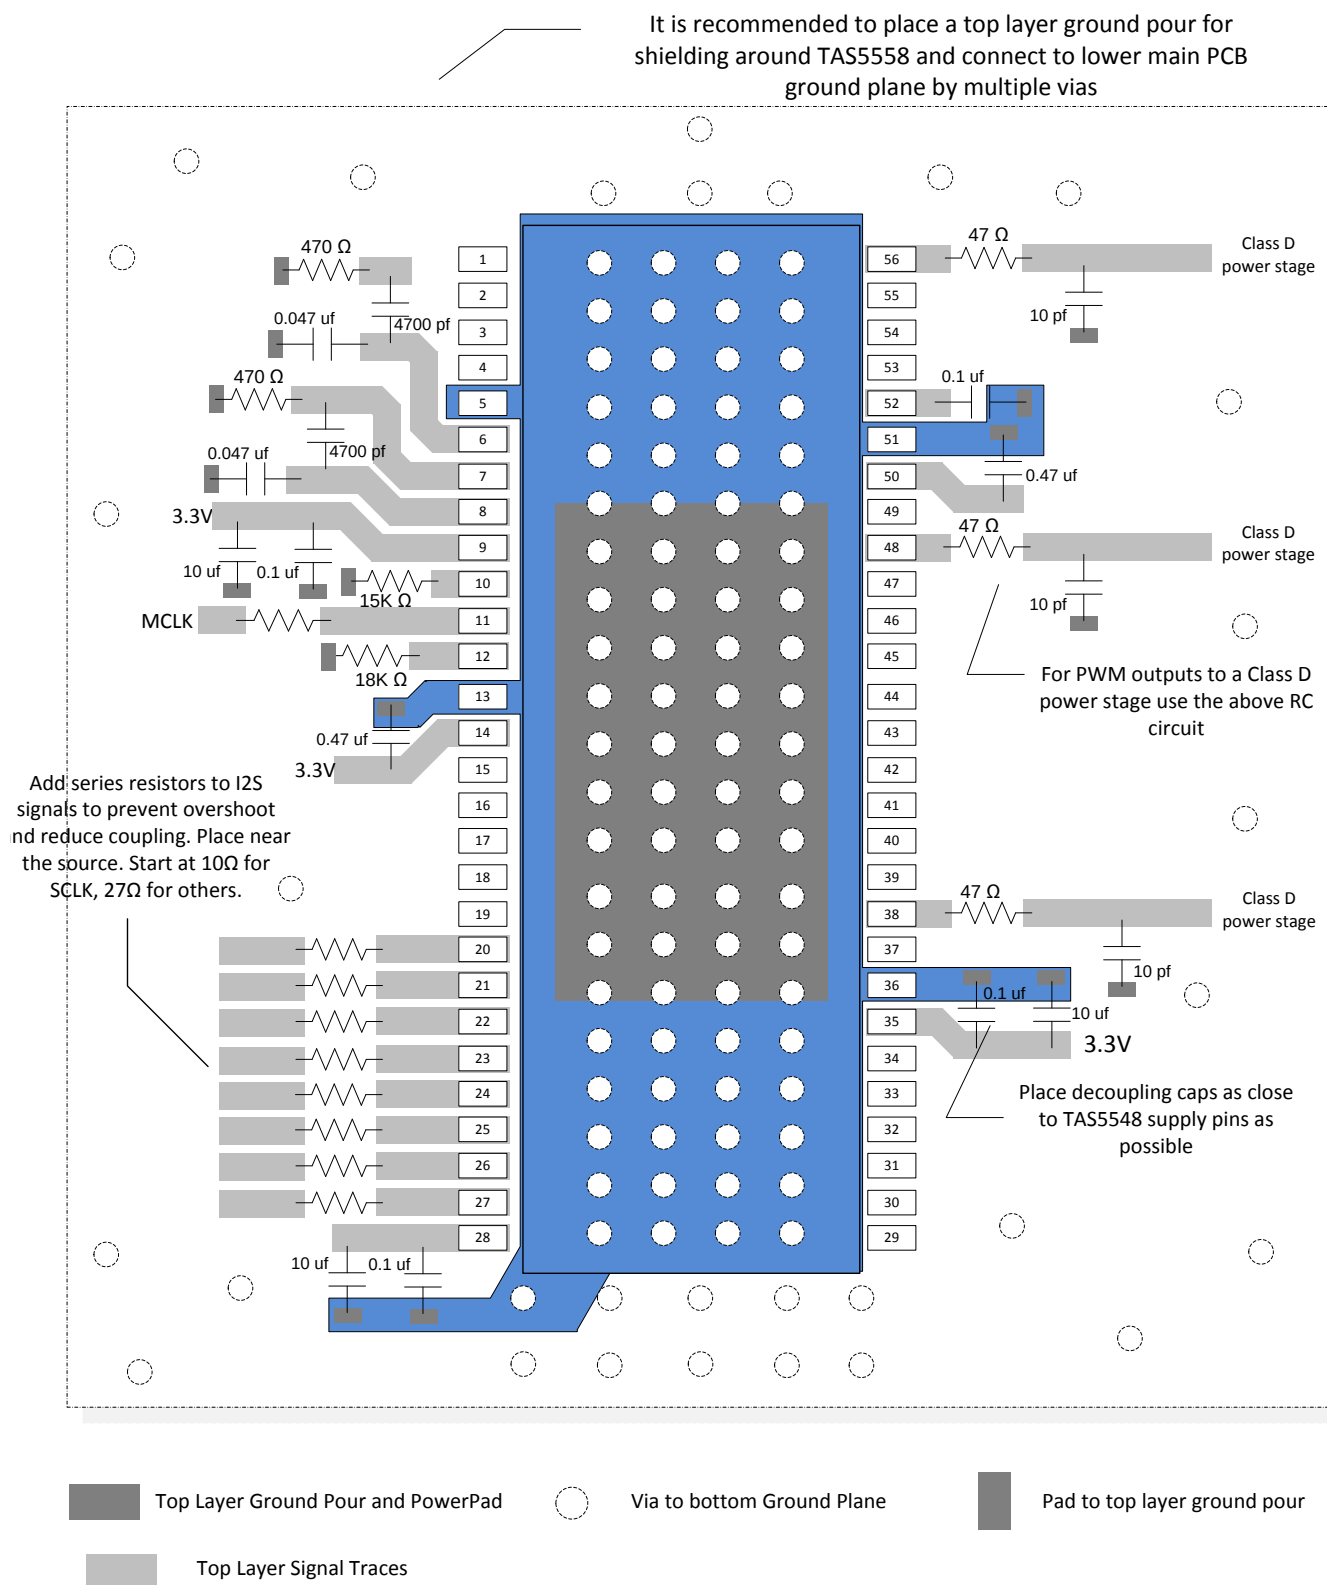

Figure 53. TAS5558 Layout Example
- Decoupling capacitors should be placed as close to the DVDD1\_CORE, DVDD2\_CORE, VR\_DIG, AVDD\_PWM and AVDD as possible. These decoupling capacitors should also have a path through the GND plane back to the power pad, as shown by the blue area in the layout example in Figure 53.
- Further guidelines can be found on the layout example in Figure 53.